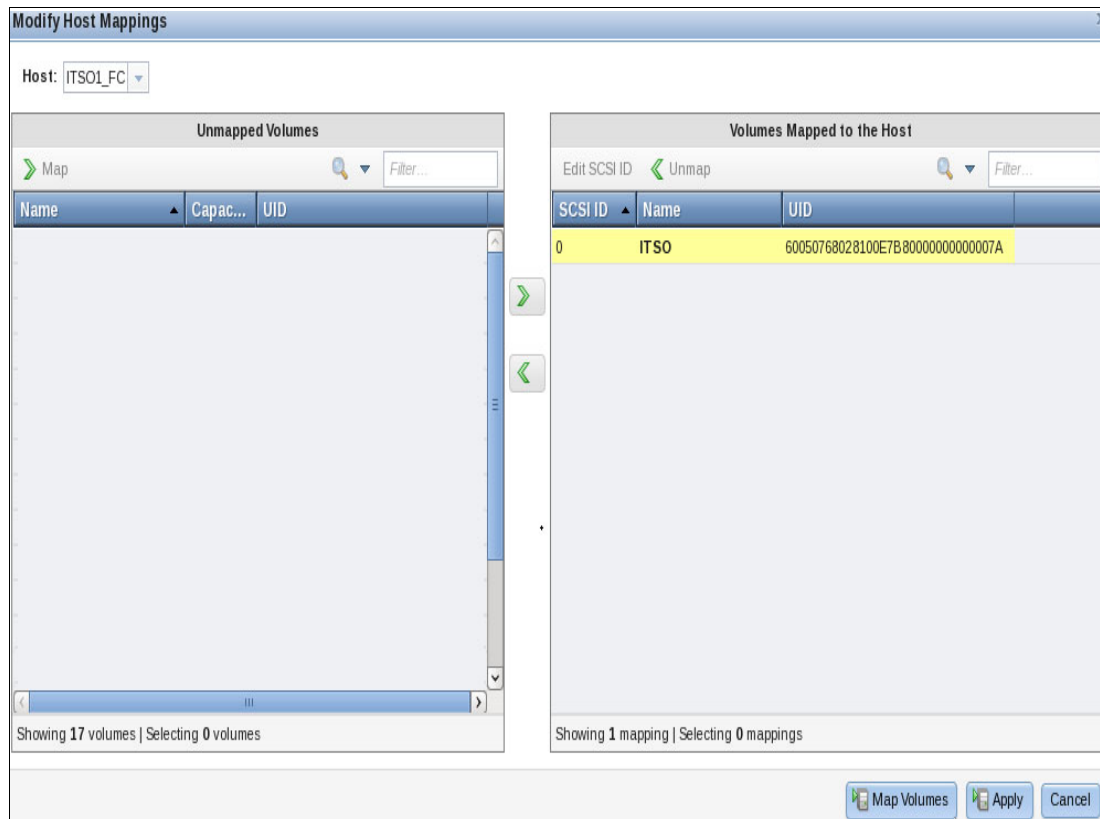

Figure 2-40 Mapping volumes
- In the Modify Host Mappings window, select the host, select the volumes to be mapped, and click the right arrow to move the volume from the Unmapped Volumes column to the Volumes Mapped to the Host column. Click **Map Volumes**, as shown in Figure 2-40.